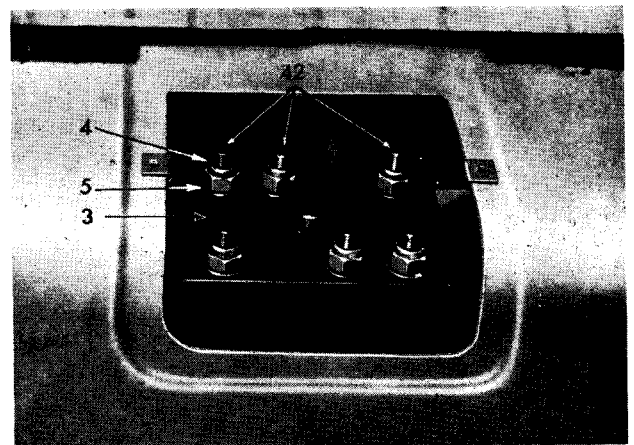

Fig. 45. Spring clamp plate attachments
6. Fit the special hexagon bar to both sides of the spring, page 3.123 refers, and remove the spring eye bolts (30) attaching the road spring to the vertical link.
8. Remove the six nyloc nuts (4), plain washers (5), detach the spring clamp plate (3) and unscrew the three rear studs (42) from the axle casing Fig. 45.